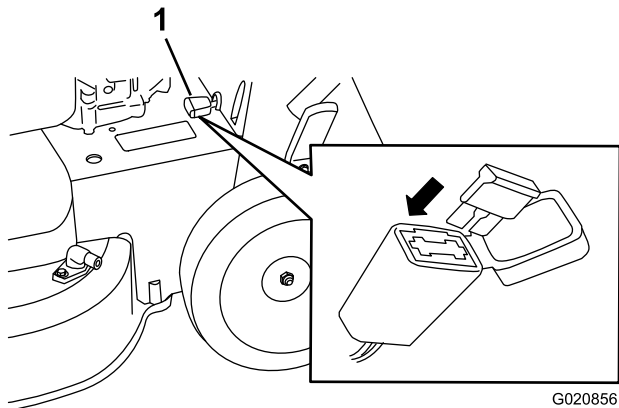

Figure 36
1. Open the sealed fuse holder and replace the fuse (Figure 36).